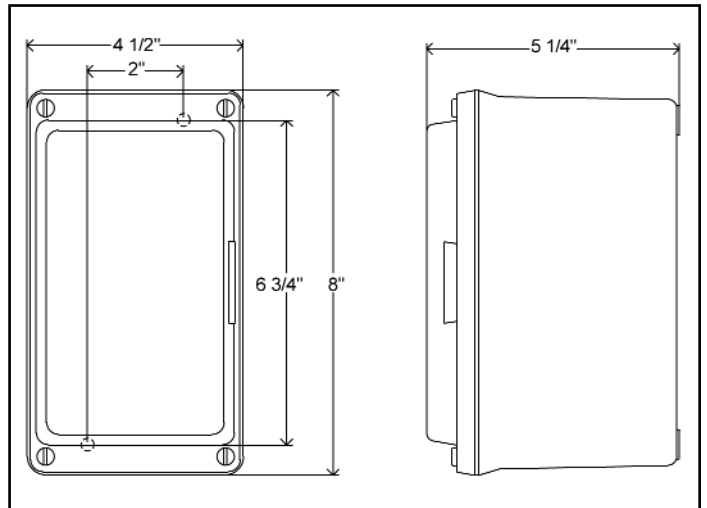

Figure 3B
- 4.2** The A5000C-DC switch enclosure is UL/CSA listed, rated for Nema 4X corrosion resistant, dust tight, oil tight and water tight, fiberglass construction suitable for indoor or outdoor use. (see figure 3B, page 4)